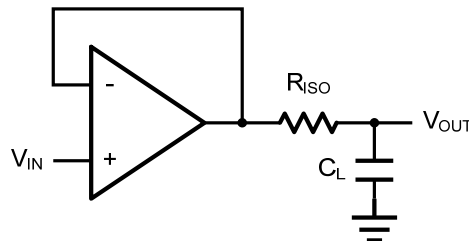
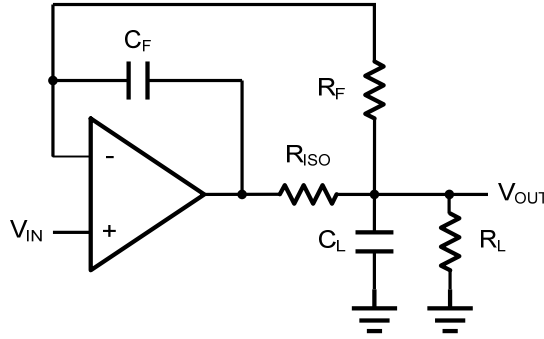

Figure 2. Indirectly Driving a Capacitive Load Using Isolation Resistor
Figure 3. Indirectly Driving a Capacitive Load with DC Accuracy
The MCOAX335Z family is optimized for bandwidth and speed, not for driving capacitive loads. Output capacitance will create a pole in the amplifier's feedback path, leading to excessive peaking and potential oscillation. If dealing with load capacitance is a requirement of the application, the two strategies to consider are (1) using a small resistor in series with the amplifiers output and the load capacitance and (2) reducing the bandwidth of the amplifier's feedback loop by increasing the overall noise gain. Figure 2. shows a unity gain follower using the series resistor strategy. The resistor isolates the output from the capacitance and, more importantly, creates a zero in the feedback path that compensates for the pole created by the output capacitance.
The circuit in Figure 3 is an improvement to the one in Figure 2. R_F provides the DC accuracy by feed-forward the V_{IN} to R_L . C_F and R_{ISO} serve to counteract the loss of phase margin by feeding the high frequency component of the output signal back to the amplifier's inverting input, thereby preserving the phase margin in the overall feedback loop. Capacitive drive can be increased by increasing the value of C_F . This in turn will slow down the pulse response.